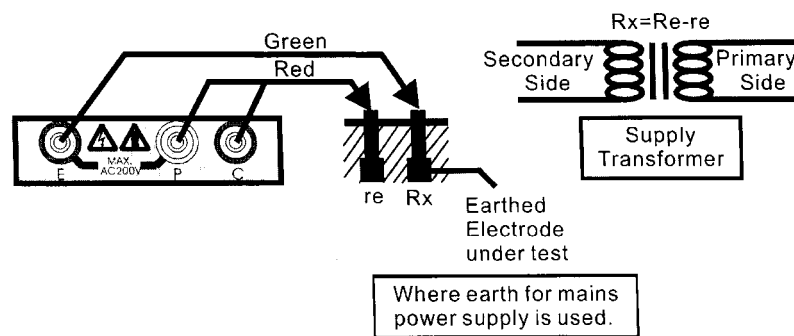

Fig.2
- An approximate value of earth resistance can be obtained by the two wire system as shown on Fig. 2.